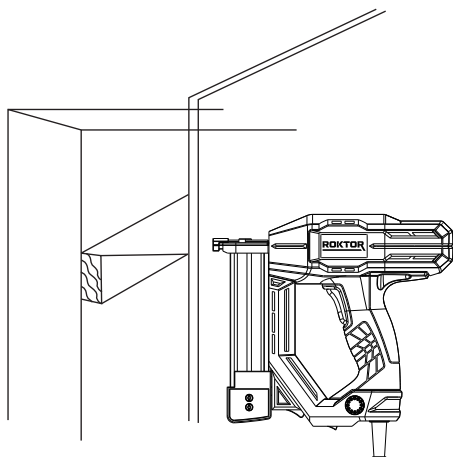

Fig. 5
4. APPLICATION TIPS (See Fig. 5 & 6)
- Fastening panels (See Fig. 5)